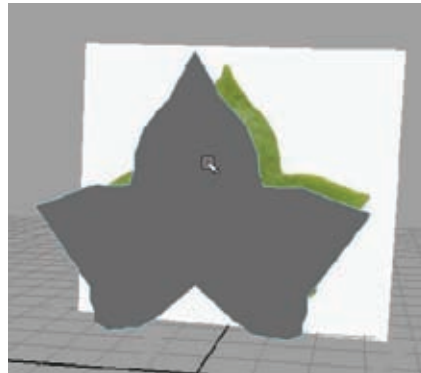

Figure 2.2
6. Back in the Side view, you can tweak the vertices of the new side of the leaf to more closely match the image reference you have. If you need to add vertices, you can use the Split Polygon tool found under the Edit Mesh menu. With the tool active, simply click once on an edge where you want a new vertex and press Enter. At this point, you should have something similar to Figure 2.2.